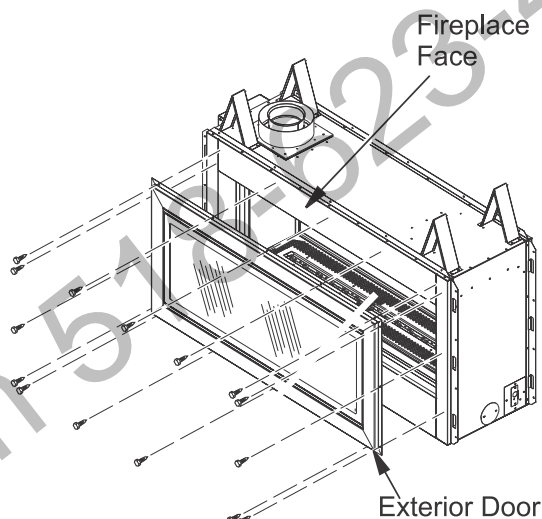

Figure 36 - Installing Exterior Door for See-Thru In/Out Application
2. Using self tapping screws (provided) secure exterior door to the face of the fireplace by drilling through holes on door into the fireplace face (Figure 36).